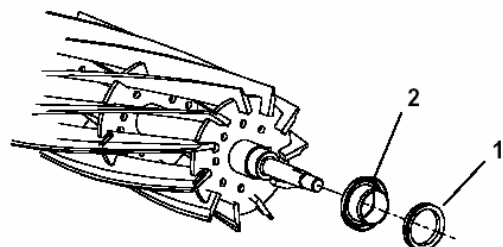

Figure 7
- Remove the V-ring from the sleeve on each end of the reel shaft (Fig. 7).